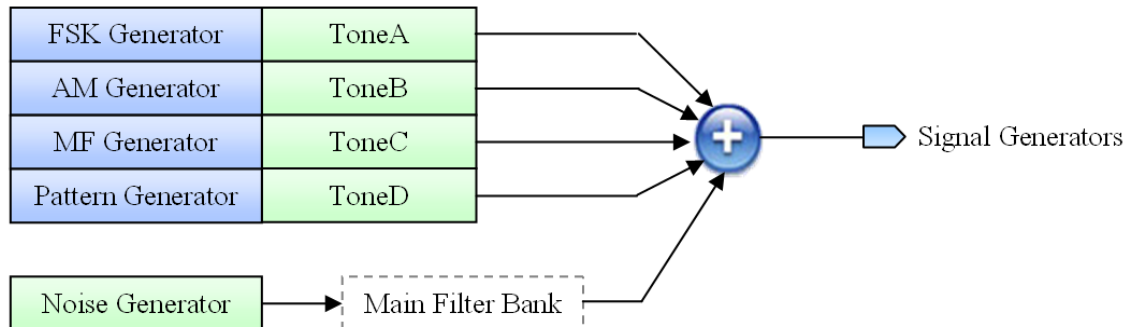
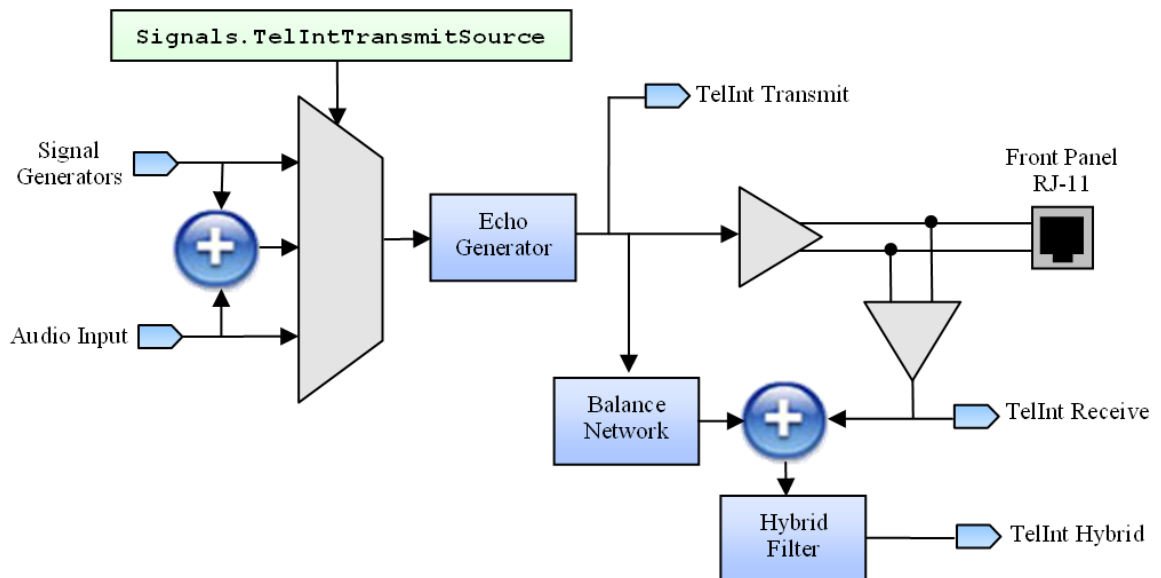

Figure 30 AI-5620 Signal Generator Routing Diagram
Figure 31 Simplified AI-5620 Telephone Interface Routing Diagram
The signal routing capabilities of the AI-5620 can be accessed using a SignalManager object which is accessed through the Signals property of the AI5620_TE_Simulator class. The following sections describe the signal routing capabilities within the instrument and highlight the corresponding programming interface; starting with the signal generators shown in Figure 30 below.
The outputs of each of the fundamental signal generators are summed together to produce the internal signal labeled “Signal Generators” as illustrated in Figure 30. This signal can then be routed to many signal blocks through the instrument including the telephone interface. A heavily simplified diagram of this telephone interface signal routing is shown in Figure 31 below.
- Signal generator outputs (Figure 30)
- **Filtering Noise Generator** – this setting configures the main filter bank to filter the noise generator output before it is summed with the rest of the signal generator outputs (as shown in Figure 30). This enables applications to “shape” or band-limit the noise generator output.
- Both the meter source and the detector source are configured to receive the “TelInt Receive” signal (see Figure 31)